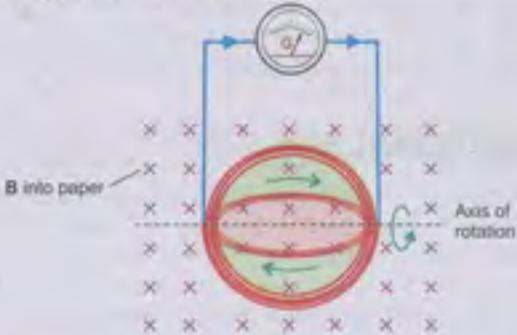

Fig. 15.4
- An induced current can also be generated when a coil of constant area is rotated in a constant magnetic field. Here, also, the magnetic flux through the coil changes (Fig. 15.4). This is the basic principle used in electric generators.